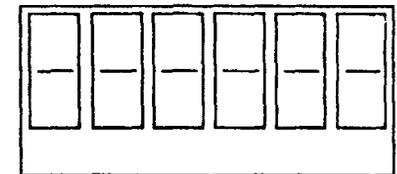

FIG. 2 - S2 Control (Example 0 Selected)
- [8] Record S2 control setting then temporarily set S2 control to 0 [FIG. 2]